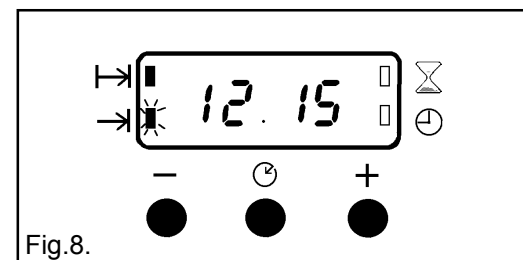

Fig.8.
- v) To set the 'End Time'. Press the Selector Control button until the 'End Time' (→T) flashes. Press the increase control (+) until the required stop time is displayed, e.g. 12.15 p.m. as Fig. 8. If necessary press the decrease control (-) until the correct time interval is achieved.